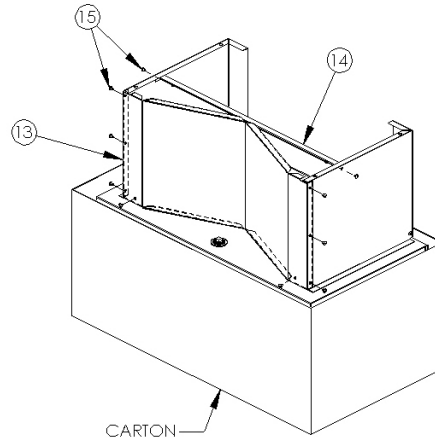

Figure 2
6. Place the front panel on to the base ends and insert remaining bolts. See figure 2.